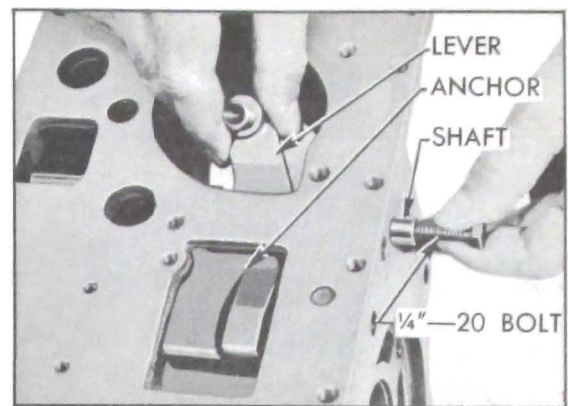

Figure 5-39—Removing Reverse Band Operating Lever and Shaft
4. Thread a $\frac{1}{4}$ "-20 bolt into the reverse band anchor shaft to pull it from transmission case; then remove the operating lever. Rotate the reverse band until the anchor can be disengaged, then remove this part. See figure 5-39.